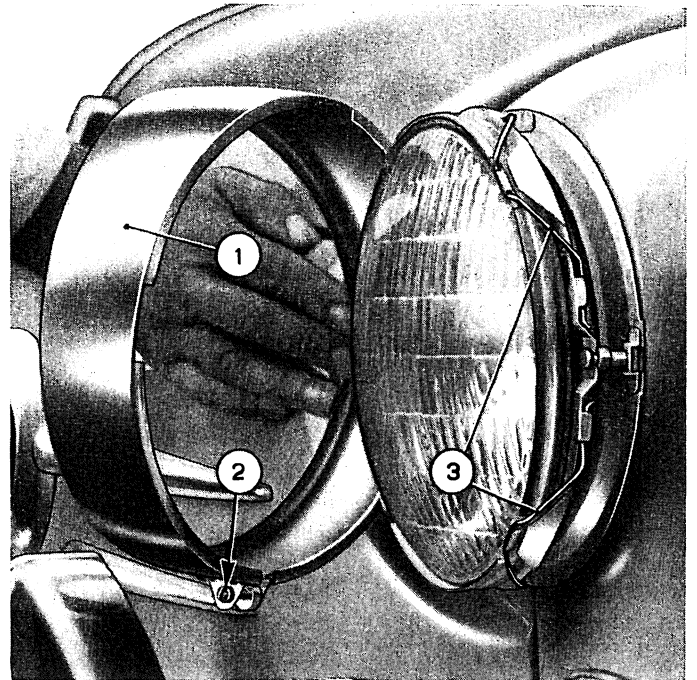

Fig. 467 - Removing headlamp rim (Version 140).
- 1) Back out the screw (2, fig. 467) and slide off the rim from its lodging.
- 2) Using a screwdriver, disengage the four spring fingers (3, fig. 467) retaining the lamp unit and mounting ring assembly.